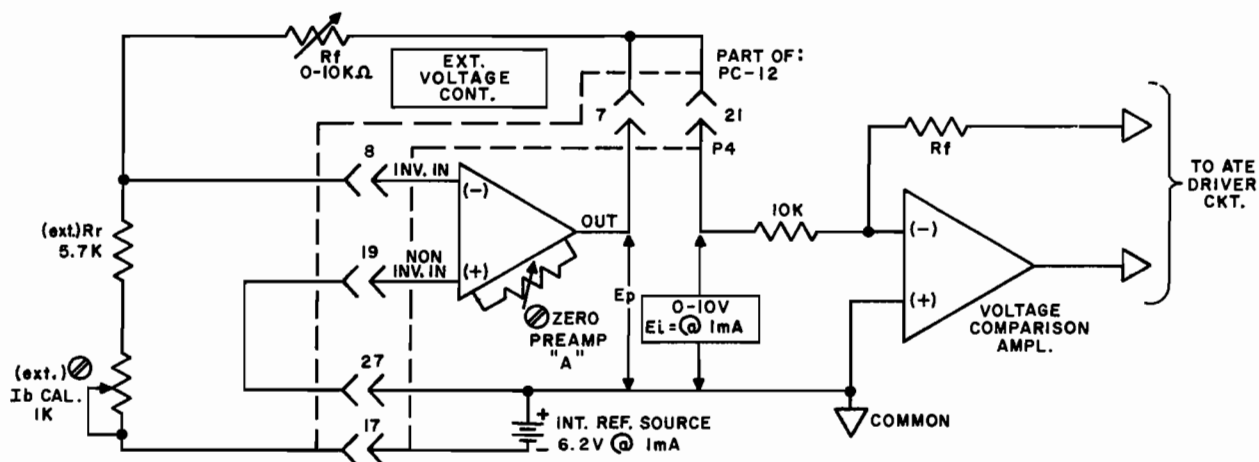

FIG. 3-7 TWO-TERMINAL RESISTANCE PROGRAMMING OF THE VOLTAGE CHANNEL, USING PREAMP "A" AND THE INTERNAL REFERENCE SOURCE.
- 3-46 As mentioned previously (refer to PAR.'s 3-39, 3-40) a wide variety of external programming sources can be used to control the ATE voltage channel. By means of one or both of the ATE's uncommitted preamplifiers, the external control potential can be amplified, inverted and/or summed with an internal d-c signal. Alternately, the preamplifier can be used to perform remote, two-terminal resistance programming of the ATE voltage channel. As seen in FIG. 3-7, the INT. REFERENCE SOURCE (6.2V @ 1 mA) is connected to PREAMP "A" and the external input/feedback components are calculated to produce the required 0 to 10 volts control signal from the preamplifier output.
3-47 (Refer to FIG. 3-7). The preamplifier functions here in the inverting configuration, producing its output voltage (E_p , which is made equal to the required control voltage " E_i ") according to the equation: